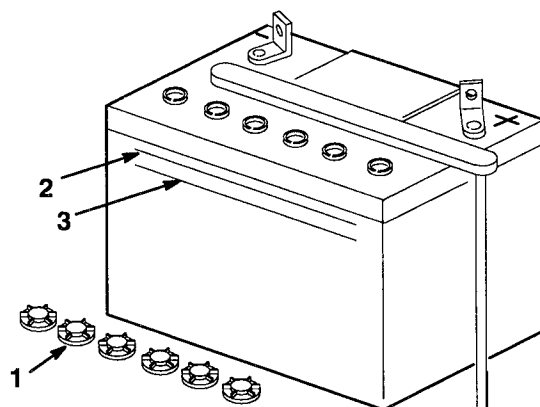

Figure 21
2. Look at the side of the battery. The electrolyte must be up to the "UPPER" line (Fig. 21). Do not allow the electrolyte to get below the "LOWER" line (Fig. 21).
2. Unscrew the filler caps (Fig. 21).
3. Slowly pour distilled water into each battery cell until the level is up to the "UPPER" line (Fig. 21) on the battery case.